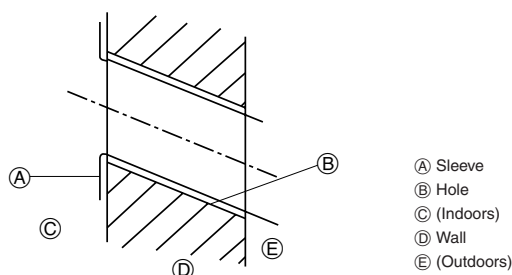

Fig. 3-3
3.2.2. Drilling the piping hole (Fig. 3-3)